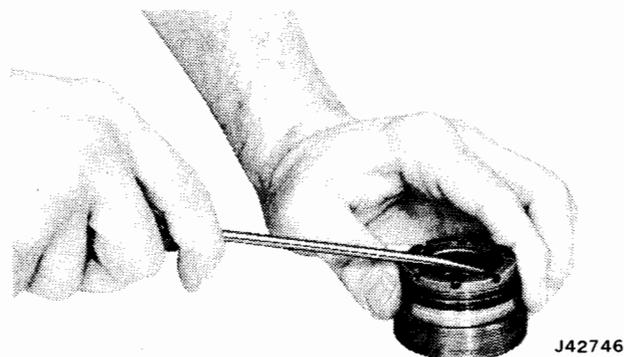

Fig. 11-75 Removal of Thrust Bearing Retainer
(3) Remove thrust bearing retainer using screwdriver (fig. 11-75) Do not score needle bearing bore. Discard retainer.